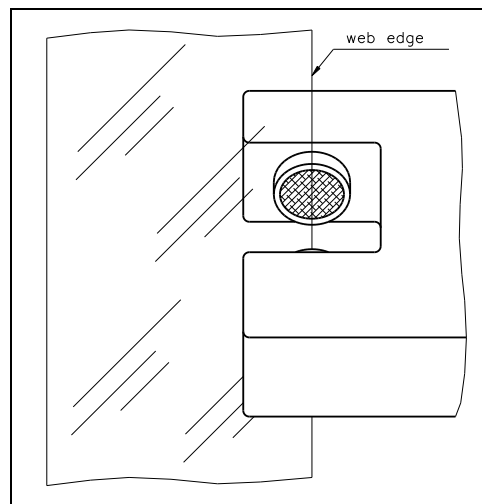

fig. 3: Aligning of the sensor axis to the web edge
- Move material to sensor or sensor to material until the material edge is between the light transmitter and receiver in the middle of the measuring range (center of sensor window; refer to fig. 3).